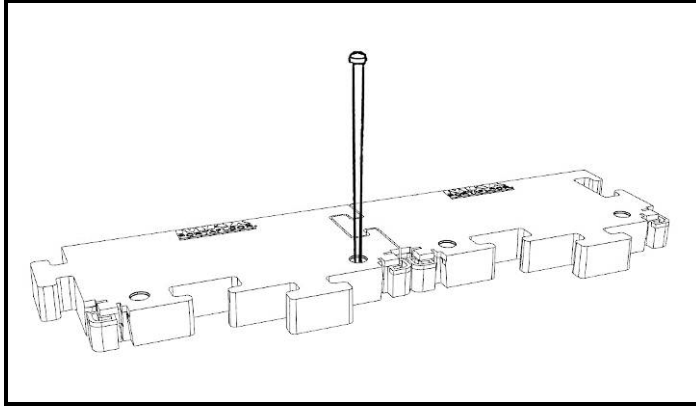

Figure 6
2. Insert drive-in stake into the anchor hole in PFMAX panels (see Figure 6).